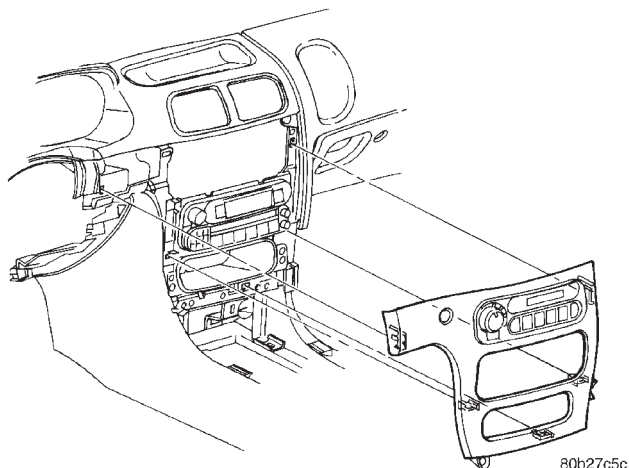
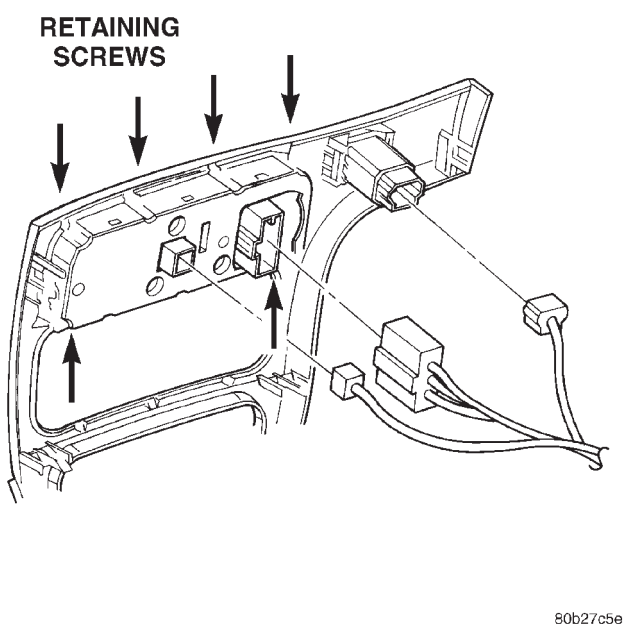

Fig. 16 Instrument Panel Center Trim Panel Removal
Fig. 17 Heater - A/C Control Head Removal
(3) Remove the instrument panel center trim bezel and remove the two electrical connectors from the back of the control head (Fig. 16) and (Fig. 17).